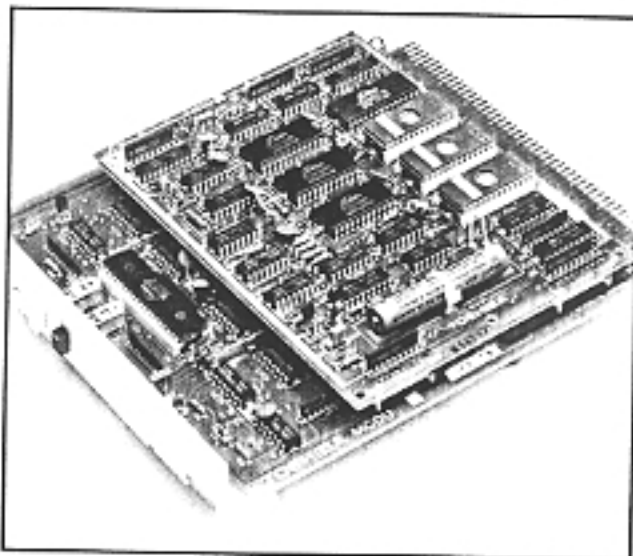

FIGURE 12—CMTU ON MCDU
06.41 Mount CMTU on the MCDU (Figure 12).